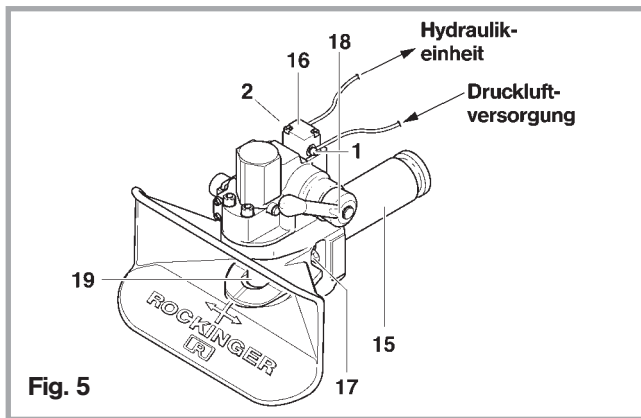

Fig. 5
- Fit pneumatic **connection set not supplied** (see fig. 5):
- From valve (16) connection ⊕ to hydraulic unit.
- From valve (16) connection ⊕ to compressed air supply (secondary consumer – max. 10 bar, min. 5 bar).